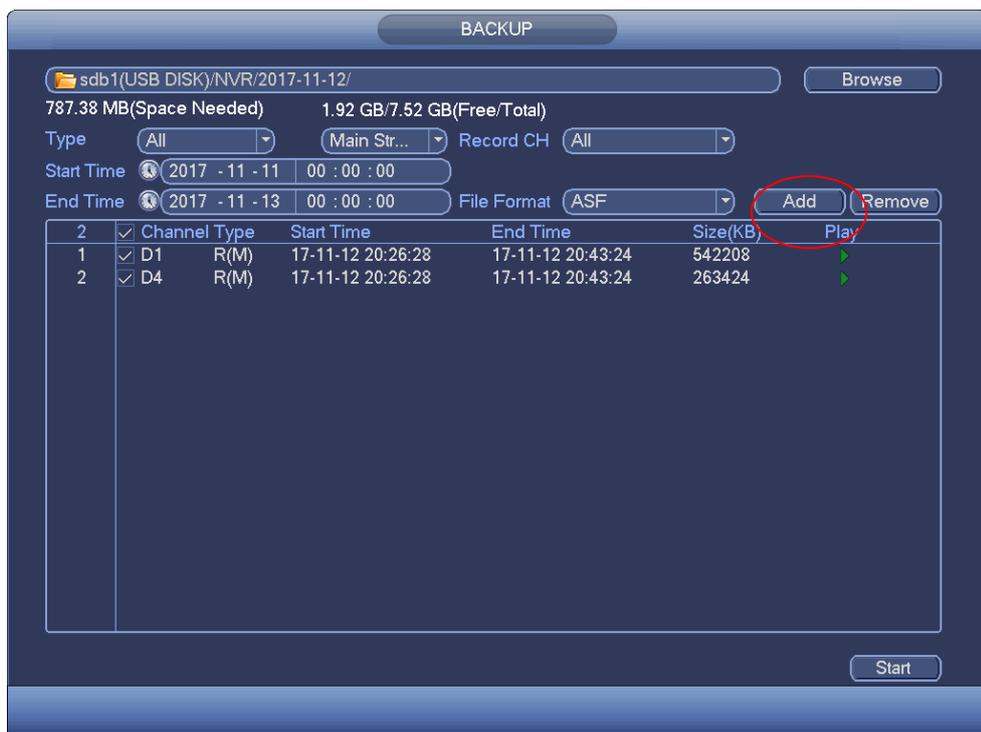

Figure 4-128
- d) Click add button, system begins search. All matched files are listed below. System automatically calculates the capacity needed and remained. See Figure 4-128.